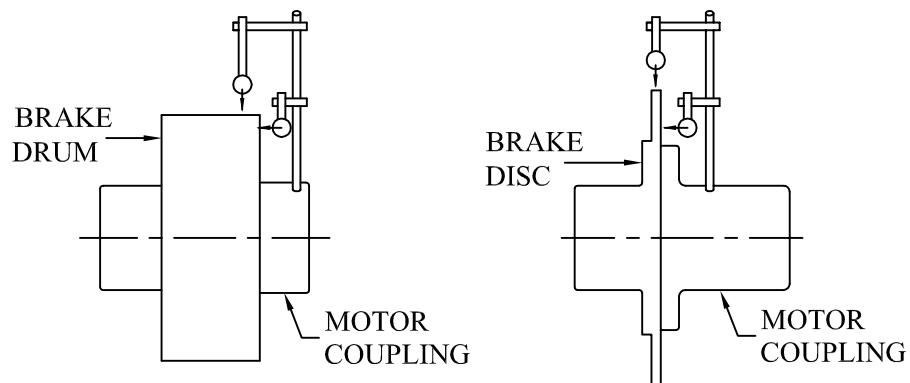

FIG. 1 - INDICATOR POSITIONING
3. Take all bolts out of the motor coupling and install two (2) 5/16" tram rods (approximately 7" long) into the motor coupling (180° apart). Put two (2) 90° Starrett Model #196 indicators on one (1) tramming rod with one against the face of the brake drum or disc, and the other on the O.D. of the brake drum or disc. See Fig. 1 for indicator positioning.